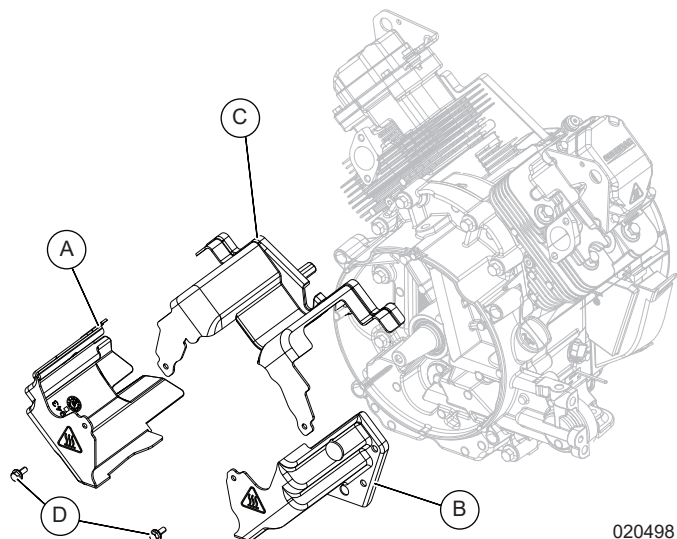

Figure 12-14. Install Cylinder Wrappers
1. See Figure 12-14. Install cylinder wrappers (A, B, C) to crankcase using two fasteners (D) (one fastener per cylinder). Side wrappers (A, B) are installed on top of top wrapper (C).